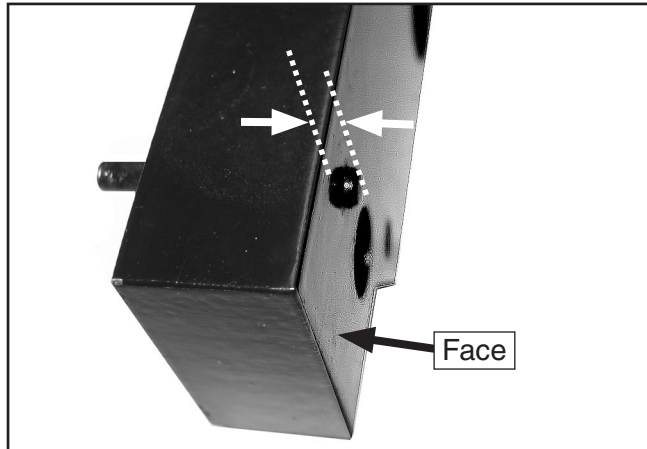

Figure 9. Pin protrusion.
12. On both tapered pins, measure and record the amount of pin protrusion from the face of the end plate (**Figure 9**).